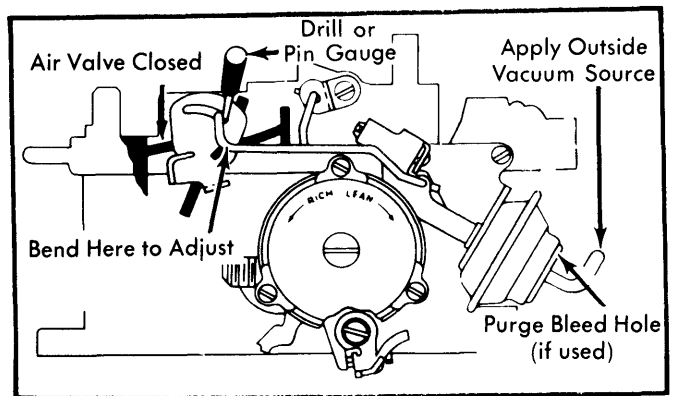

Fig. 6 Adjusting Air Valve Rod – Front
- 1) Using an outside vacuum source, seat primary (front) choke vacuum break diaphragm. Plug purge bleed hole (if equipped) with masking tape. Hole is found in end of diaphragm. See Fig. 6.